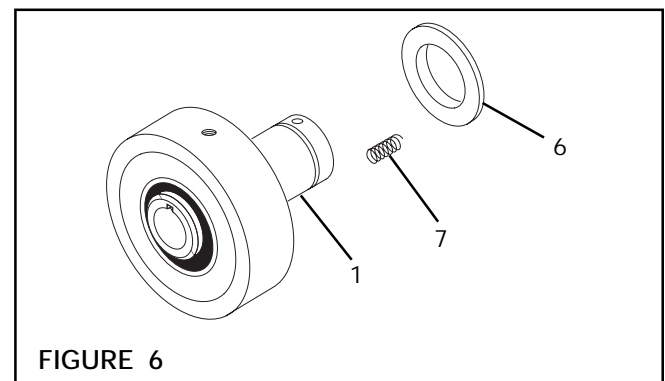

FIGURE 6
4. Remove Backing Plate (Item 6) (See Figure 6).
5. Remove Compression Springs (Item 7) (See Figure 6).